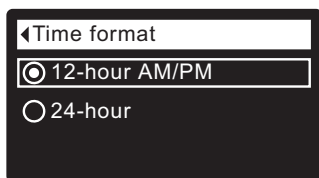

FIG. 60
1. From any of the rolling status screens, press the SELECT (O) button to display the **Main menu**.
3. Press the SELECT (O) button to display the User preferences menu.
5. Press the SELECT (O) button to display the Time format menu (See Figure 60).
6. If the desired time format already has a dot next to it (See Figure 60), go to Step 7. Otherwise, press the DOWN (▼) or UP (▲) buttons to scroll to the other time format, then press SELECT (O) to choose it.
7. Press the SELECT (O) button. The display will go back to the User preferences menu.